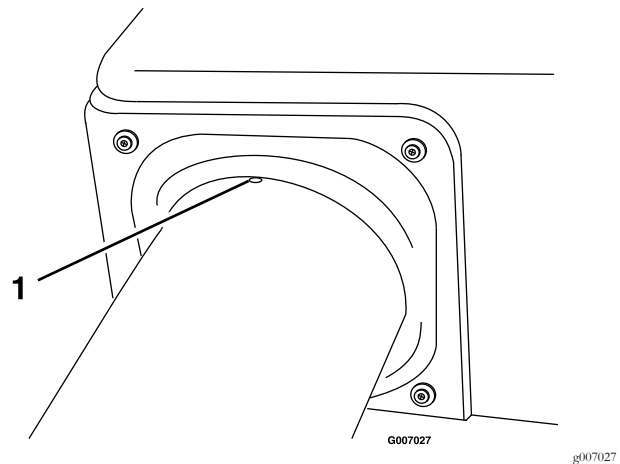

Figure 16
23. Align the dimple on the upper tube with the end of hood seal and center between the two screws as shown in Figure 16.